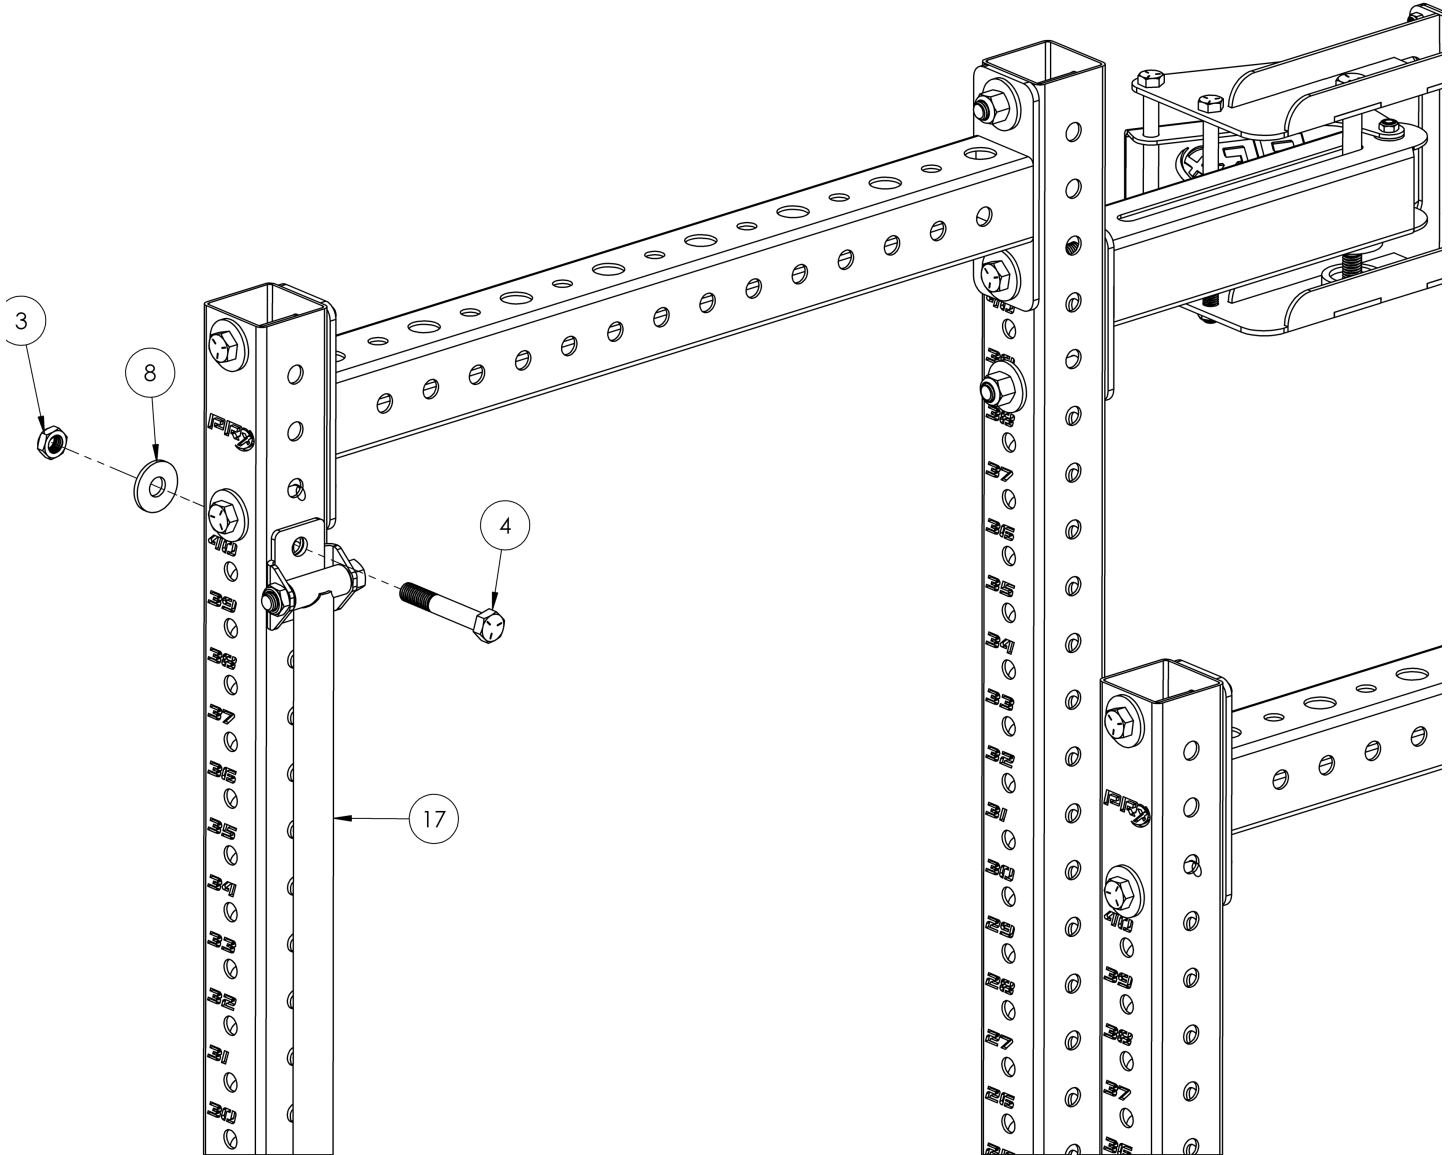

Figure 7: Attaching the pull-up bar to the rack
1. With the 15/16" open end wrench and 15/16" socket wrench, attach the pull-up bar (18) to the rack using a 4" x 5/8" Hex bolt (4), a 5/8" flat washer (8), and a 5/8" thin locknut (3) below the crossmember bolt (Figure 7).